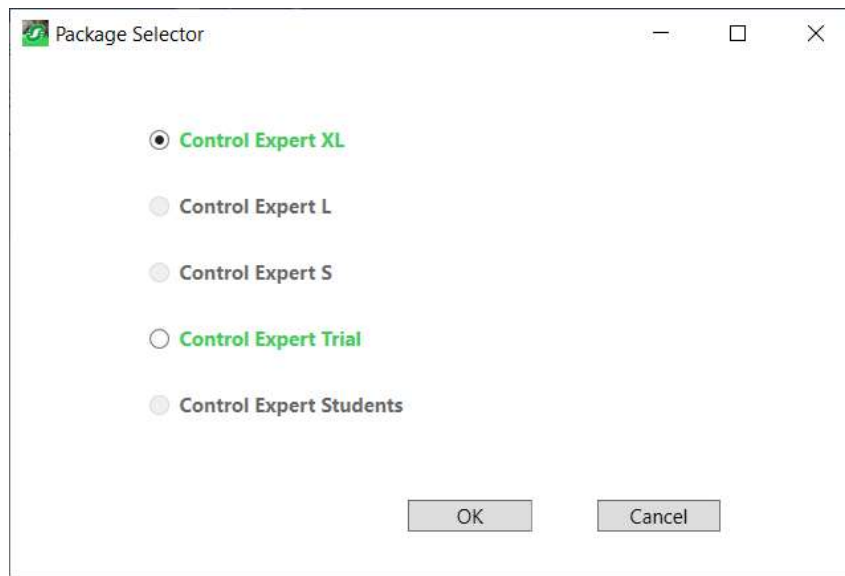

Figure 9 -Package Selector.
- Select the purchased Control Expert size version (See Figure 9) in the Package Selector window.